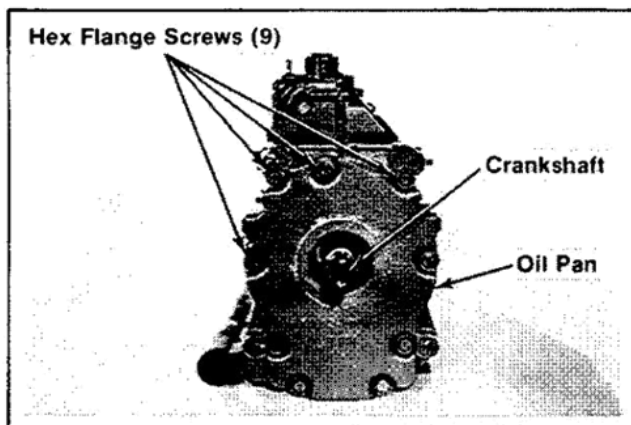

Figure 9-34. Removing Oil Pan.
1. Remove the hex flange screws and oil pan. Refer to Figure 9-34.